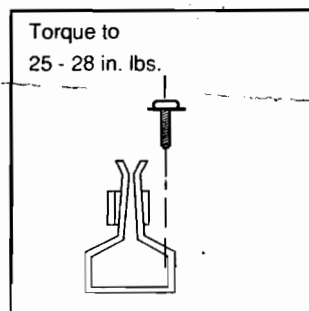

Figure 4
- Using Figure 4, install the fuse clips provided, on the disconnect device with #10-24 x 3/8" long panhead machine screws on the disconnect device and torque screws 25-28 in. lbs.